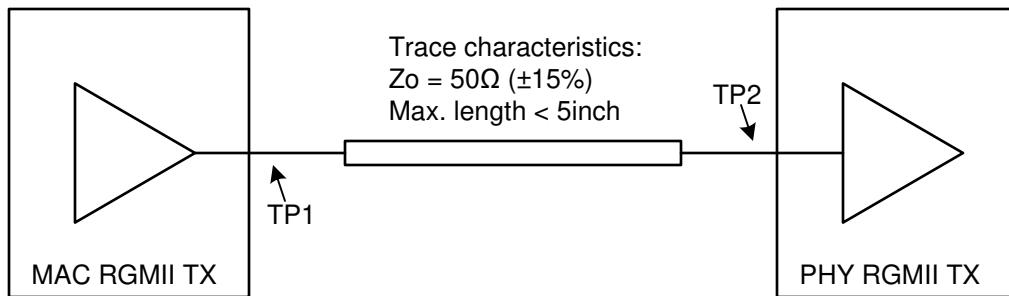

Figure 7-2. RGMII TX Requirements
- Figure 7-2 shows a RGMII interface requirements for TX* signals. MAC RGMII driver output impedance should be 50 Ohm+/-20%.
- Skew for all RGMII TX signals at TP2, in Figure 7-2, should be <±500ps.
- Signal Integrity at TP1 and TP2, in Figure 7-2, should be verified with IBIS model simulation and ensured conformance to following requirements: